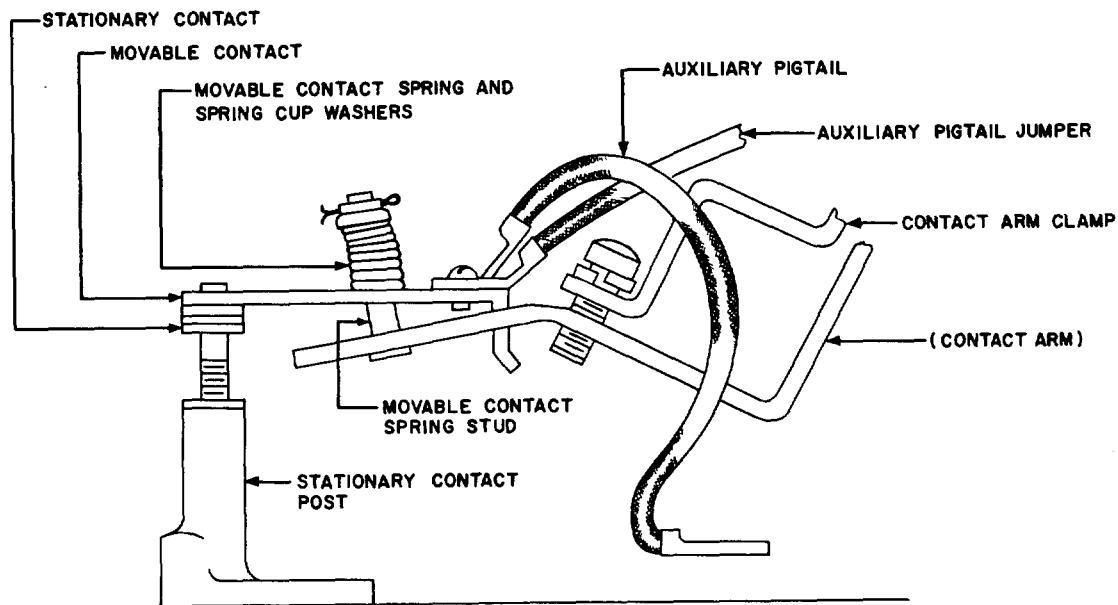

Fig. 4—Auxiliary Contact Structure (Butt Type) of 30-, 75-, 100-, and 150-Ampere Contactors
**3.06 Movable Butt-Type Contacts—Fig. 4 to 7**
**3.07 Stationary Butt-Type Contacts—Fig. 4 to 7**